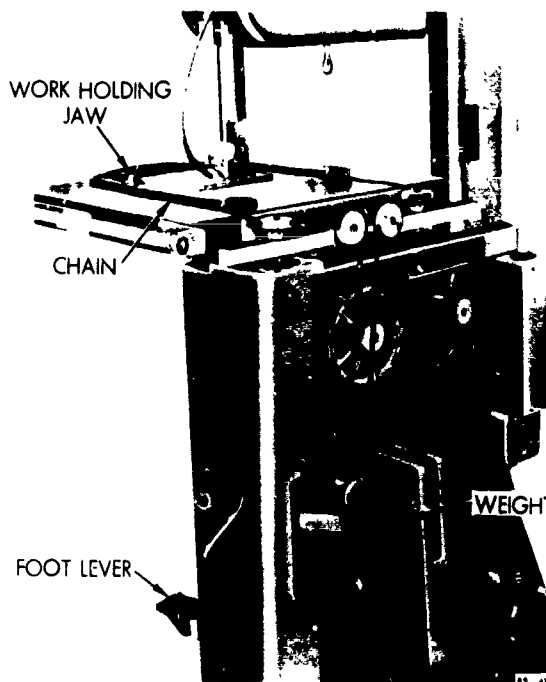

Figure 3-18. Power feed.
**Power Feed Attachment.** The power feed attachment, shown in figure 3-18, permits you to use both hands to guide the work. The power is provided by a weight on a beam. The location of the weight on the beam determines the rate of feed and the pressure which is exerted on the saw band by the work. You vary the location of the weight by turning the power feed handwheel on the front of the machine. Turning the handwheel clockwise reduces the pressure and the rate of feed. Turning it counterclockwise increases the rate of feed. When the handwheel is in the extreme counterclockwise position, the weight exerts a pressure or pull of 60 to 75 pounds. The pressure is transmitted to the work by means of a cable and chain, as shown in figure 3-18. Position the movable pulleys in line with the sides of the work for straight sawing and slightly outside the edges of the work for contour sawing. NOTE: You can use the workholding jaw, shown in figure 3-18, to hold the work. Place the power feed chain around it as shown in figure 3-18.